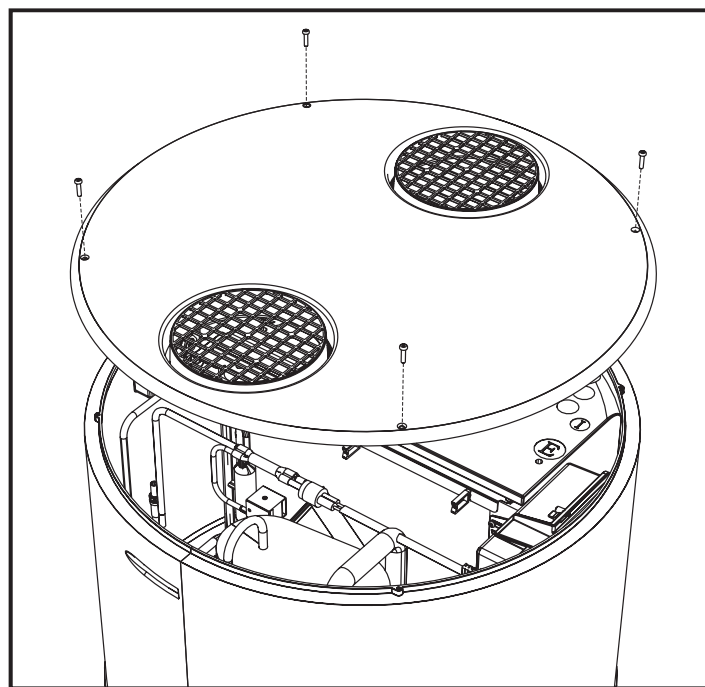

fig. 45- Top cover removal
- Remove the top cover by first undoing the locking screws (fig. 45).